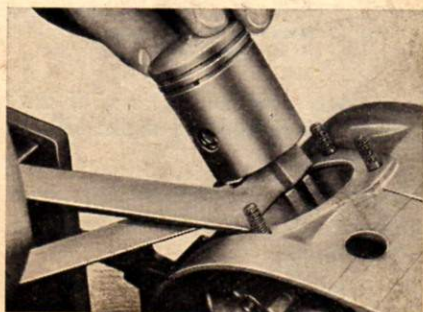

Fig. 55 Aligning connecting rod VI / 57 / 828
7. The connecting rod can be re-aligned with the straightening levers, part No. 0301-70700-00.1, as illustrated in fig. 55.